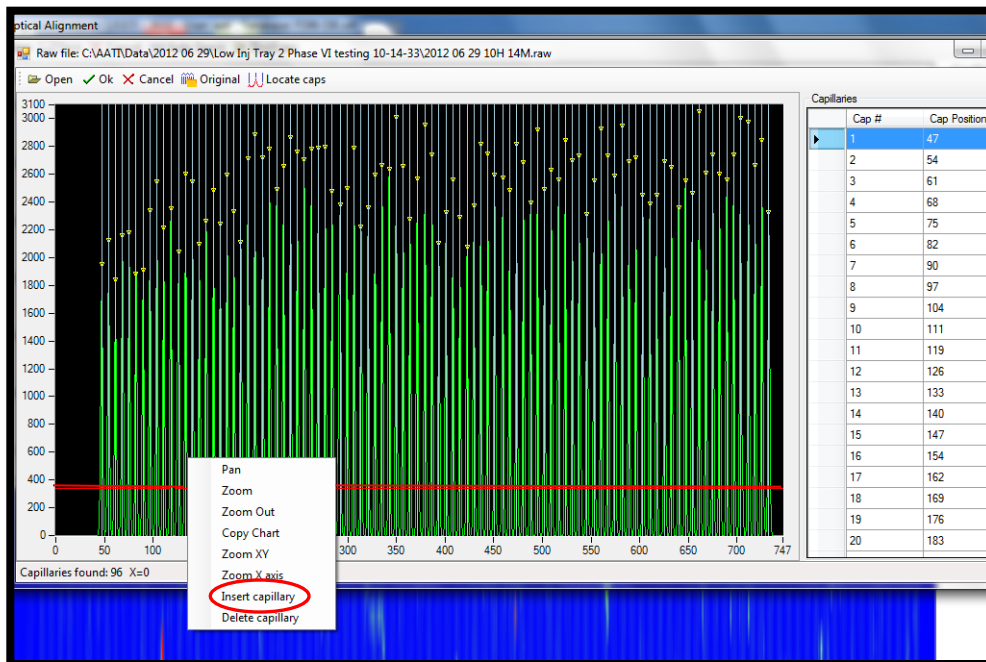

Figure 7-51. Capillary Position Display Window:
- Right click on the area in the black screen of the Align from File Window and select [Insert/Delete Capillary]. (Fig 7-51.)